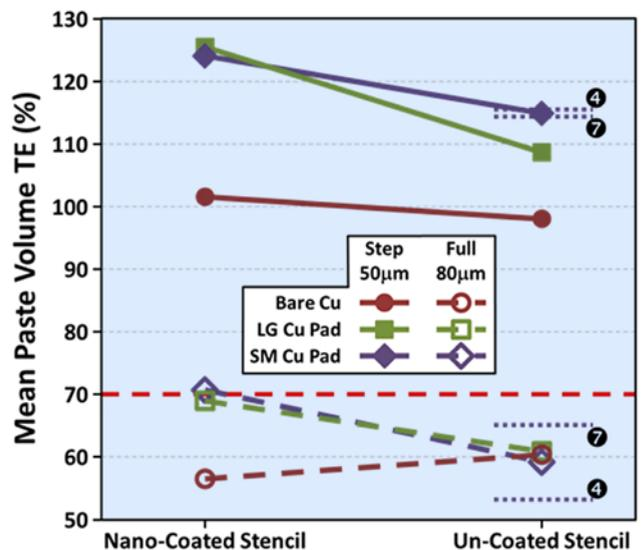

Figure 13: M0201 mean paste volume trends.
The data from the complete printing experiment outlined in Table 5 is consolidated into a single interaction plot comparing mean paste volume transfer efficiency results in Figure 13. The values in Table 6 report the specific data plotted. Data labels ④ and ⑦ (Figure 13) identify repeat Test 4 and Test 7 results. The plotted point in-between indicates the average of the two test conditions. Test 4 and 7 results are more alike to one another for the 50mm thick step stencil apertures due to a more favorable area ratio permitting easier paste transfer compared to the full 80mm thick stencil apertures. The red horizontal dashed
in Figure 4, a model for estimating the lowest solder volume accomplishing an acceptable soldered termination result. The result in Table 2 indicates a raw print volume of 0.48nl satisfies this requirement and is identified in Figure 13 as the dashed horizontal red line. It is useful to view this threshold against the raw solder paste print data to improve judgment on M0201 printability. The only test condition which supplied enough solder paste on all ten prints is the 50mm thick step stencil nano-coated apertures. This result may actually be enabled by a poor stencil wipe as the side effect of this can be additional paste volume, confirmed by the high TE reported in Figure 13. Another interesting general observation here is the similarity of raw print volume distributions when comparing the 50mm thick step stencil data against the full 80mm thick stencil. While we may expect to see more physical